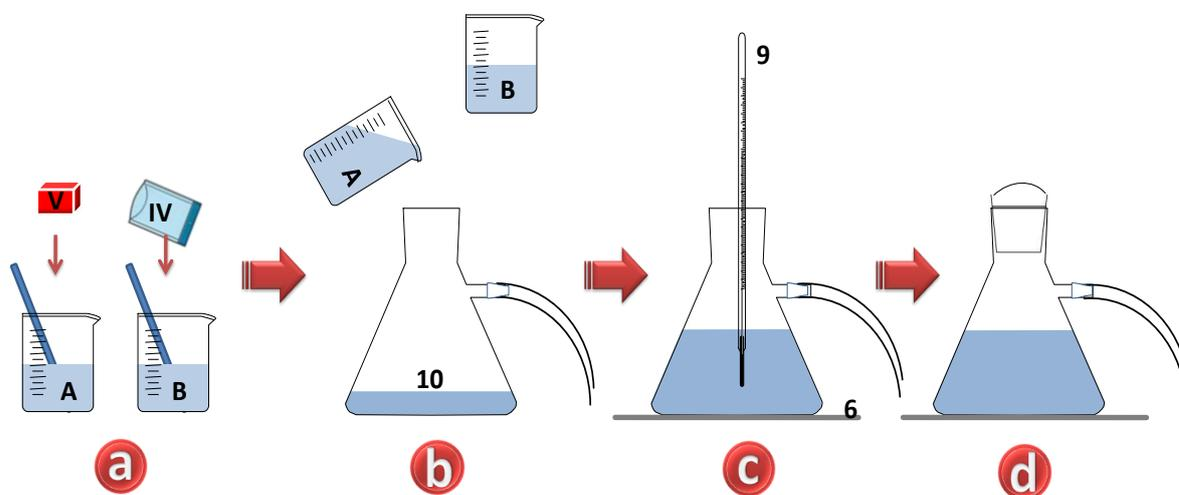

Figure 3
**B. Instructions for assembling the fermentation reaction flask according to Figure 3.**